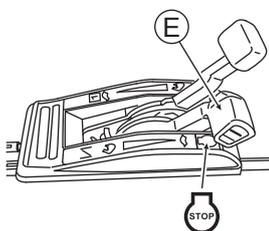

Fig. 19
6. To interrupt mowing work halfway or finish it, return Drive clutch lever (B) and Blade lever (C), and then set Throttle lever (E) to "STOP" to stop the engine. (See Fig. 19)